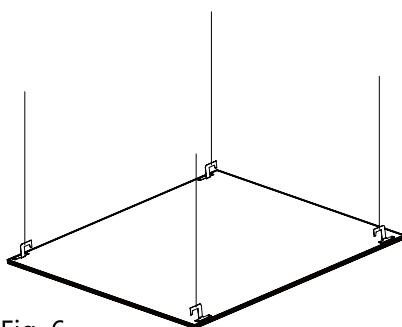

Fig. 6
2. Attach the cables to the earthquake clips found on the back of the luminaire. (Fig. 6)